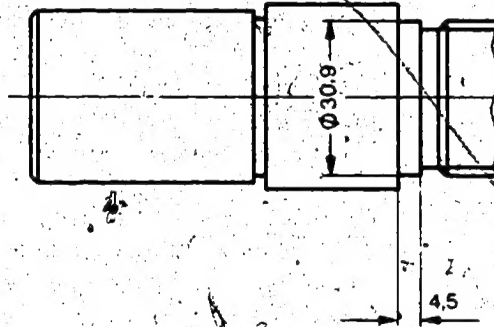

Fig. 3 Armature shaft
- 1.2. Armature shaft (Item 9/1) : The length of the disc spring seat changes from 5.5 to 4.5 mm, the seat diameter being 30.9 instead of 30.2 mm (Fig. 3). There is no change in the disc spring (Item 9/2).